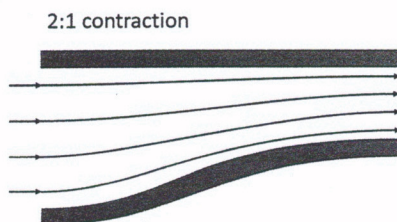

Figure 10.17
12. For the gradually contracting flow in Figure 10.17, where is the pressure highest? Indicate your answer on the a sketch of the flow. Explain.